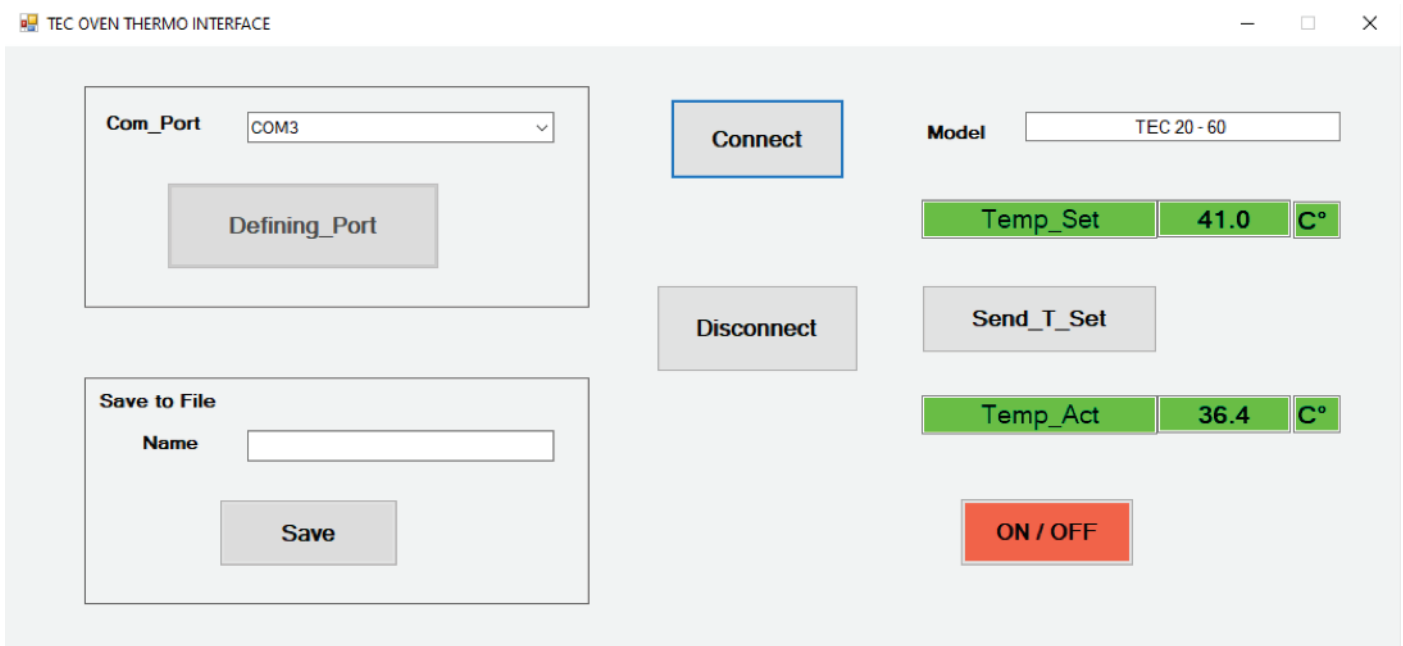

FIGURE 5. User Interface Software
- Pressing the 'Connect' button interface connects to the Tec controller and activates the interface (figure 5). At this moment, all control knobs of the Tec controller are disabled (except for the '**POWER**' switch), and the current state of the Tec controller are reflected on the interface.